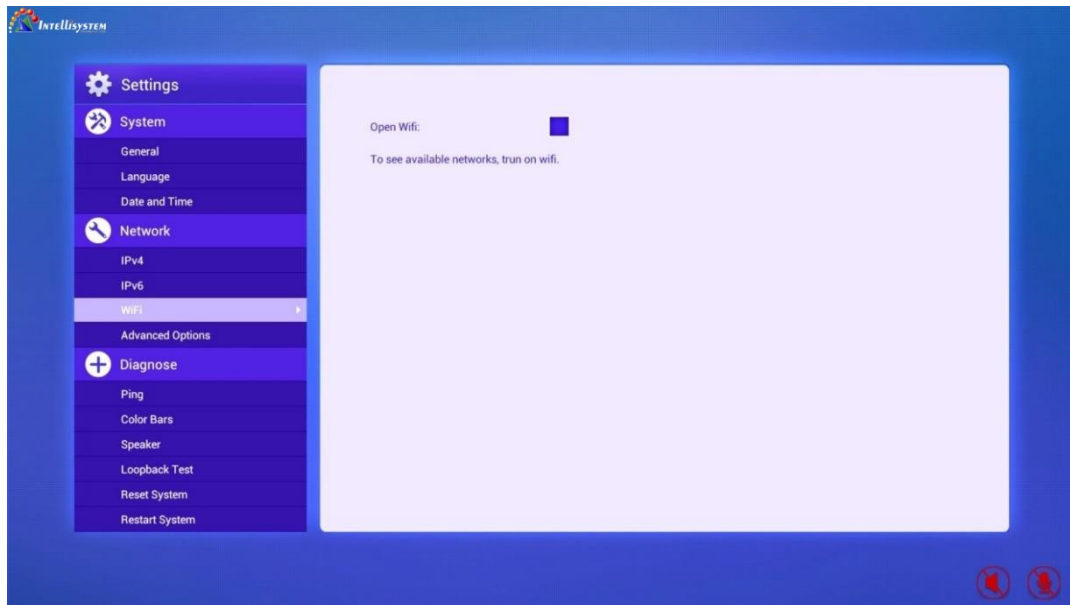

Figure 7-4-5
Wi-Fi module is optional. Wi-Fi menu will be displayed when the terminal is configured with a Wi-Fi module. If not, skip to the next chapter. Select “Wi-Fi” at the left column and the Wi-Fi settings will be shown at the right side, as Figure 7-4-5 shows.
- If wired network is enabled (network cable connected), the system will disable Wi-Fi automatically, as Figure 7-4-5 shows.